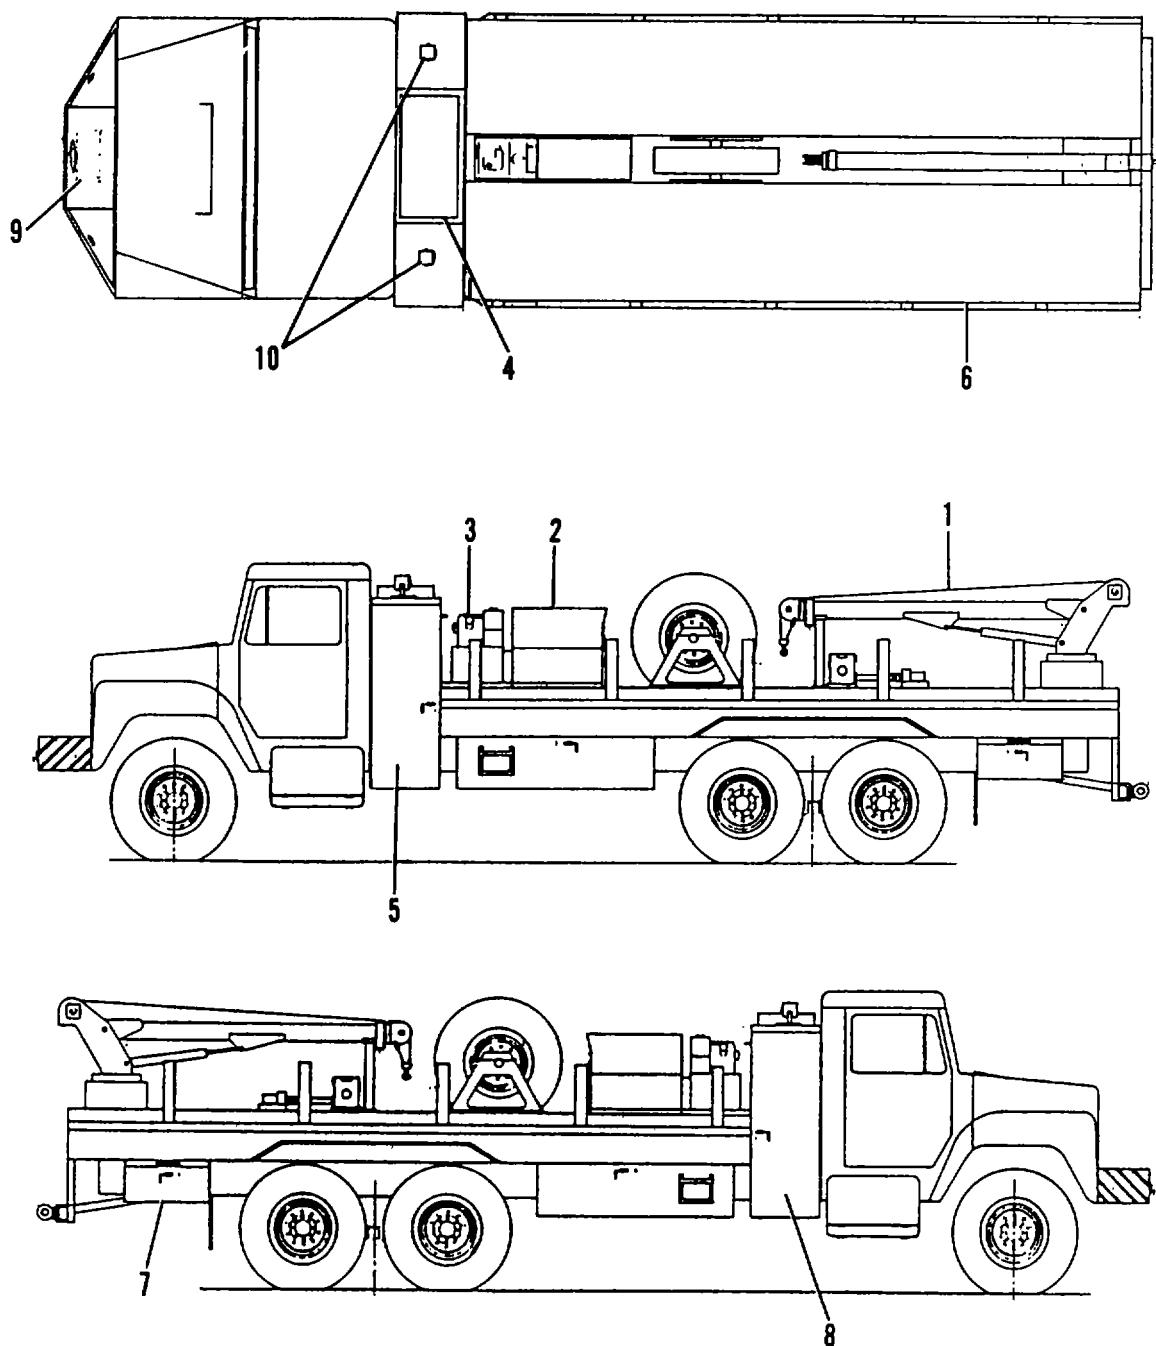

Figure 1-5. Rig Tender Major Components
- (1) Crane (1, Figure 1-5). Provides backup well servicing capability, as well as tool and casing handling support. Located at the rear center of the waterbed, the crane turret and boom assembly rotate continuously in any direction. Crane operation is by remote pendant control stored in the base of the crane. Hydraulic and electrical power is controlled from a panel inside the truck cab.
- (2) Welder and Generator (2, Figure 1-5). Self-contained unit mounted at the top, front center of the waterbed. The unit is used as an alternating current (ac) or direct current (dc) welder and as a power plant for supplying auxiliary power.
- (3) Welder Engine (3, Figure 1-5). Provides power for welder/generator unit. It is an air-cooled, single cylinder, electrically started 14-horsepower diesel engine.
- (4) Fuel Transfer System (4, Figure 1-5). Consists of an auxiliary fuel tank, fuel transfer pump, hose, and fuel nozzle. Electrical power to operate the pump is controlled from inside the truck cab. Fuel flow is controlled at the nozzle.
- (5) Water Heater (5, Figure 1-5). Consists of integrated open-loop water heating manifold. Contains liquid propane (LP) gas heating torch, hose, pre-set regulator, manifold mounting bracket, and LP tank. Manifold also provides in-transit storage for water pump hoses.
- (6) Waterbed (6, Figure 1-5). Provides water storage for rotary well drilling operations. Water level is indicated by magnetically operated water level gauge. Filling and discharging operations are by rotary reversible water pump.
- (7) Water Pump (7, Figure 1-5). Provides ability to move water into or out of the waterbed, or from one external water source to another without going through the waterbed. The pump is a hydraulically driven unit, mounted in the rear curbside tool box. Hydraulic power is controlled from inside the truck cab. Pump is engaged and disengaged by an air-shift control located at the pump.
- (8) Hydraulic Reservoir (8, Figure 1-5). Holds fluid that hydraulically drives either the water pump or the front winch. Air-shifted controls operate the tank-mounted valves that direct the flow of fluid.
- (9) Winch (9, Figure 1-5). Hydraulically driven, 20, 000-pound capacity unit mounted on front of truck. Operated from inside the truck cab by an airshift control. Used for pulling drilling rig or rig tender.
- (10) Night Lighting (10, Figure 1-5). Consists of two floodlights mounted on vertical cabinets behind the truck cab. Electrical power ON/OFF switches are inside the truck cab.
c. Equipment Data.(1) Crane.**DIMENSIONS AND WEIGHT**